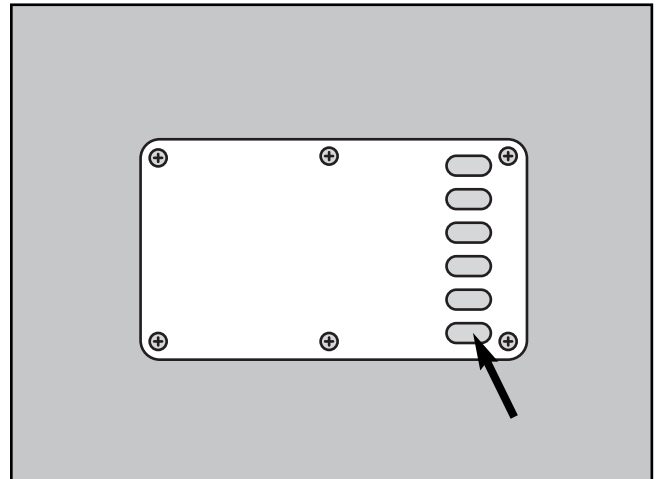

Figure 28. 1st string installation hole.
1. Slide the 1st guitar string through the corresponding hole in the back plate (**Figure 28**).